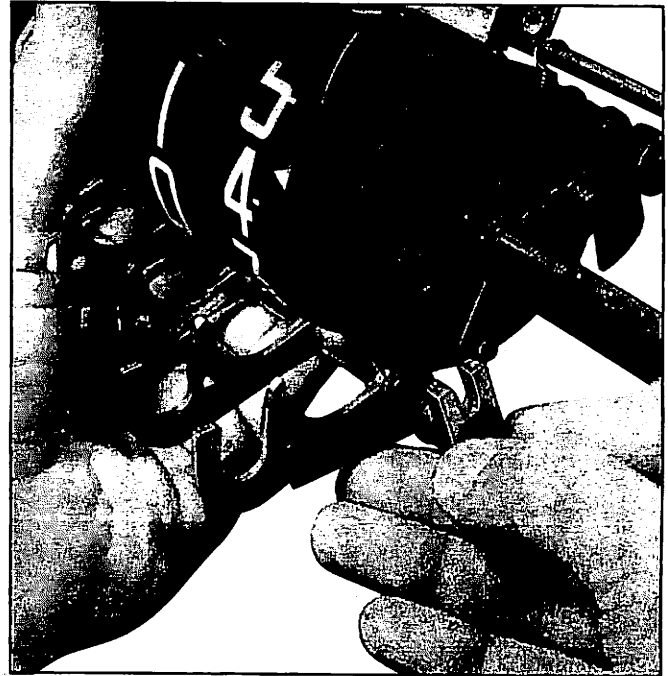

Figure 10. Reset Finger Group Removal.
- b. Disengage the reset fingers and no-back pawl from the wheels. See Figure 10. Remove the group. See Paragraph C, 2 for parts replacement.